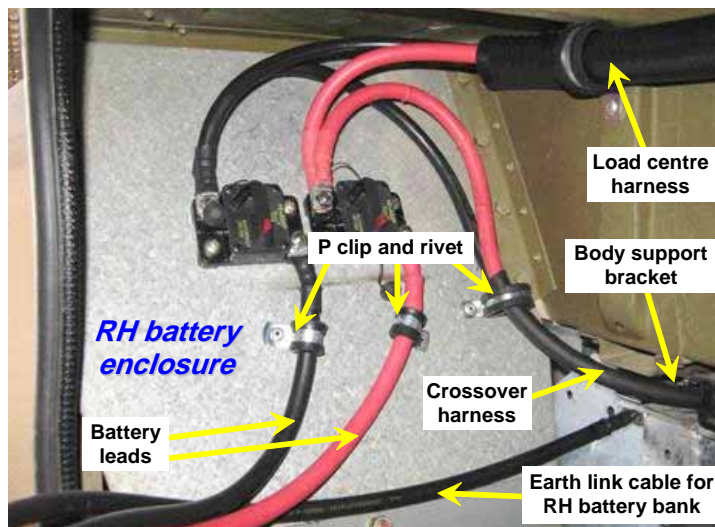

Figure 36 RH Side Battery Enclosure Cabling
- (1) In the right hand battery enclosure, use a P clip (Table 1, Item 84) and pop rivet (Table 1, Item 88) to secure the sleeved section of the crossover harness as shown in Figure 36.
- (2) Connect the 6 mm terminal lugs on the ends of the positive (red) and negative (black) cables from the crossover harness and the load centre harness to the top terminals on the 150-amp circuit breakers as shown in Figure 36.
- (4) Connect the 6 mm terminal lug ends of the positive and negative battery leads (Table 1, Items 62 and 63) to the lower terminals on the 150-amp circuit breakers and secure both leads to the guard arch with two small P clips (Table 1, Item 85) and pop rivets (Table 1, Item 88), 80 mm below the 150-amp circuit breakers, as shown in Figure 36.
- (5) Fit a positive battery terminal post clamp (Table 1, Item 52) to the 10 mm lug on the free end of the red battery lead. Fit a negative battery terminal post clamp (Table 1, Item 53) to connect together the 10 mm lugs on the free ends of the black battery lead and the earth link cable. Final terminations for these leads are made later in the installation.
- (6) Set both of the 150-amp circuit breakers to the OPEN position.